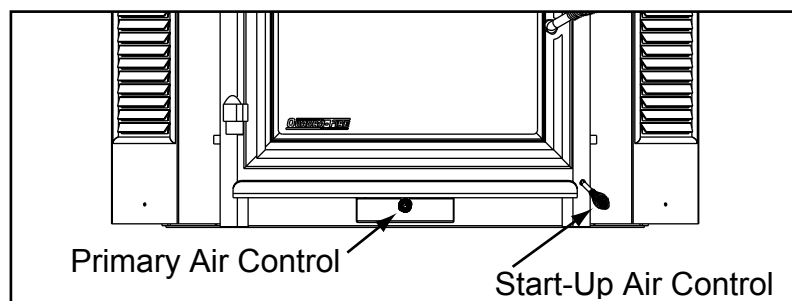

Figure 17A
3. Open Start-Up Air Control (right side) and Primary Air Control (under ashcatcher) fully. **See Figure 17A on page 17.**